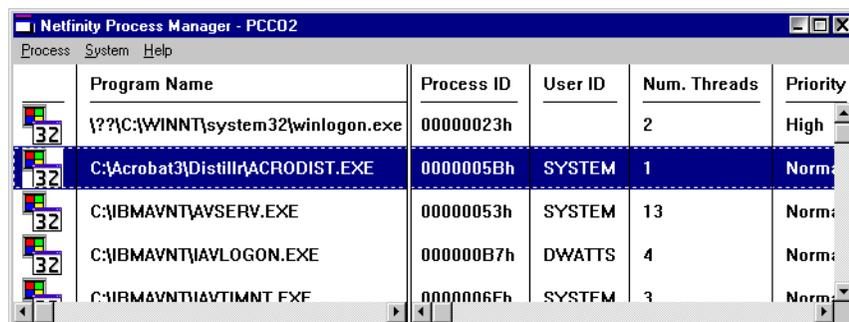

Figure 191. ACRODIST in Process Manager
2. Double-click the server's **Process Manager** icon and scroll down the list until you see the ACRODIST process as shown in Figure 191: